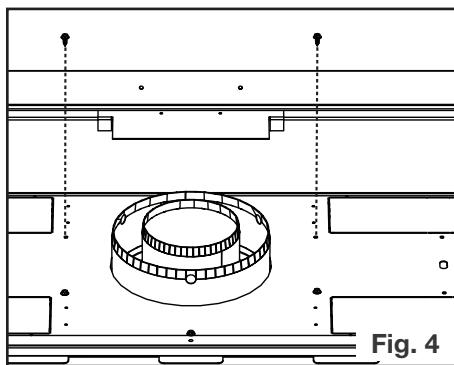

Fig. 4
4. Roll the vent sleeve as shown and ensure to clip the ends together (**Fig. 4**).
4. Unscrew the fasteners as shown in Figure 4. DO NOT DISCARD FASTENERS.